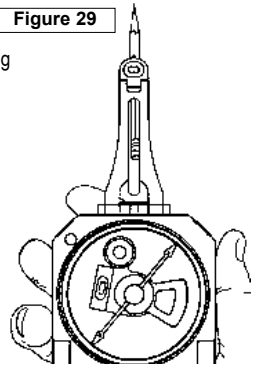

Figure 29
3. Hold compass at waist level and look down through the long sight, aligning the pencil with the long sight. (Fig 29)